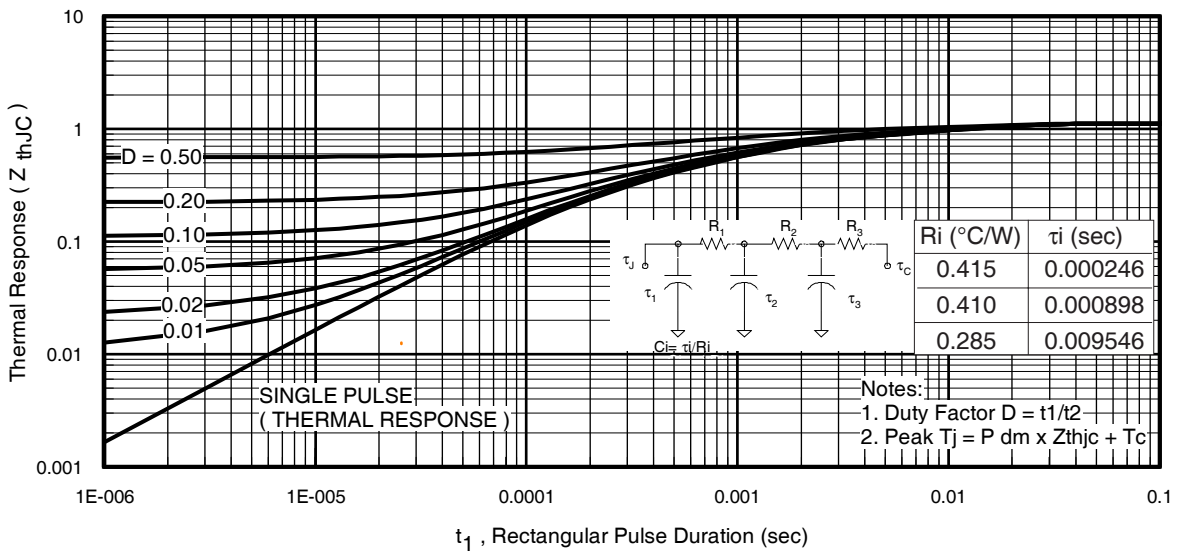

Fig 11. Maximum Effective Transient Thermal Impedance, Junction-to-Case
- ① Repetitive rating; pulse width limited by max. junction temperature. (See fig. 11).
- ② Limited by T_{Jmax} , starting $T_J = 25^\circ\text{C}$, $L = 0.077\text{mH}$, $R_G = 25\Omega$, $I_{AS} = 51A$, $V_{GS} = 10V$. Part not recommended for use above this value.
- ③ $I_{SD} \leq 51A$, $di/dt \leq 260A/\mu s$, $V_{DD} \leq V_{(BR)DSS}$, $T_J \leq 175^\circ\text{C}$.
- ④ Pulse width $\leq 1.0\text{ms}$; duty cycle $\leq 2\%$.
- ⑤ $C_{oss\ eff.}$ is a fixed capacitance that gives the same charging time as C_{oss} while V_{DS} is rising from 0 to 80% V_{DSS} .
$Z_{thJC}(D, t_{av})$ = Transient thermal resistance, see figure 11)